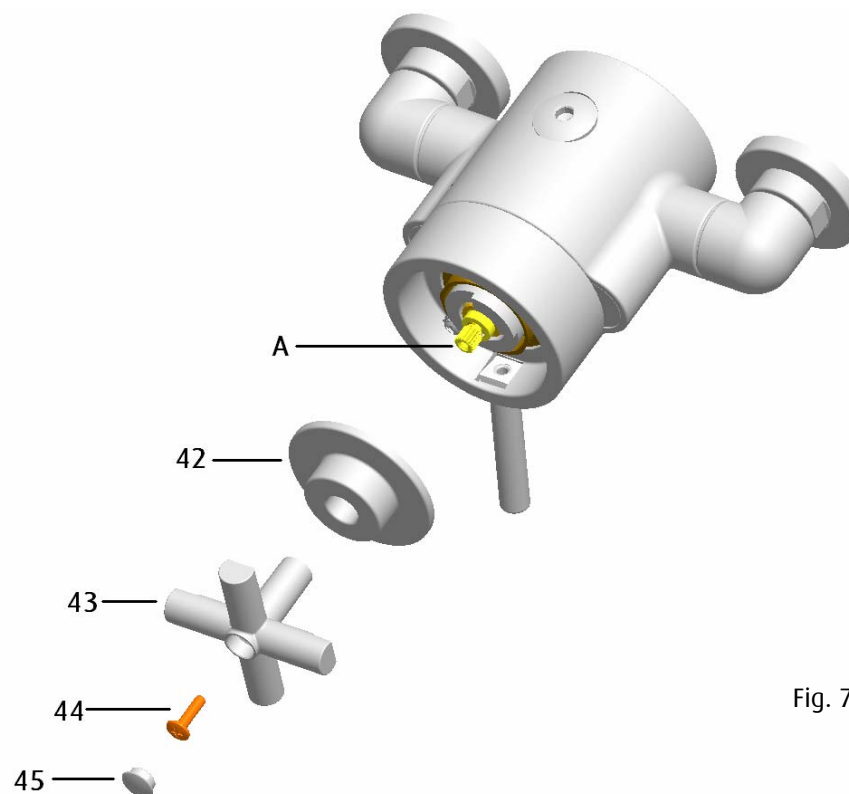

Fig. 7
8.8 Resetting the Maximum Temperature (See Fig. 7)
8.8.2 See Fig. 7 below, remove the temperature control handle and shroud (43 & 42) by removing the cap (45), remove the screw (44) and pulling the handle and shroud (43 & 42) off the spindle (A).